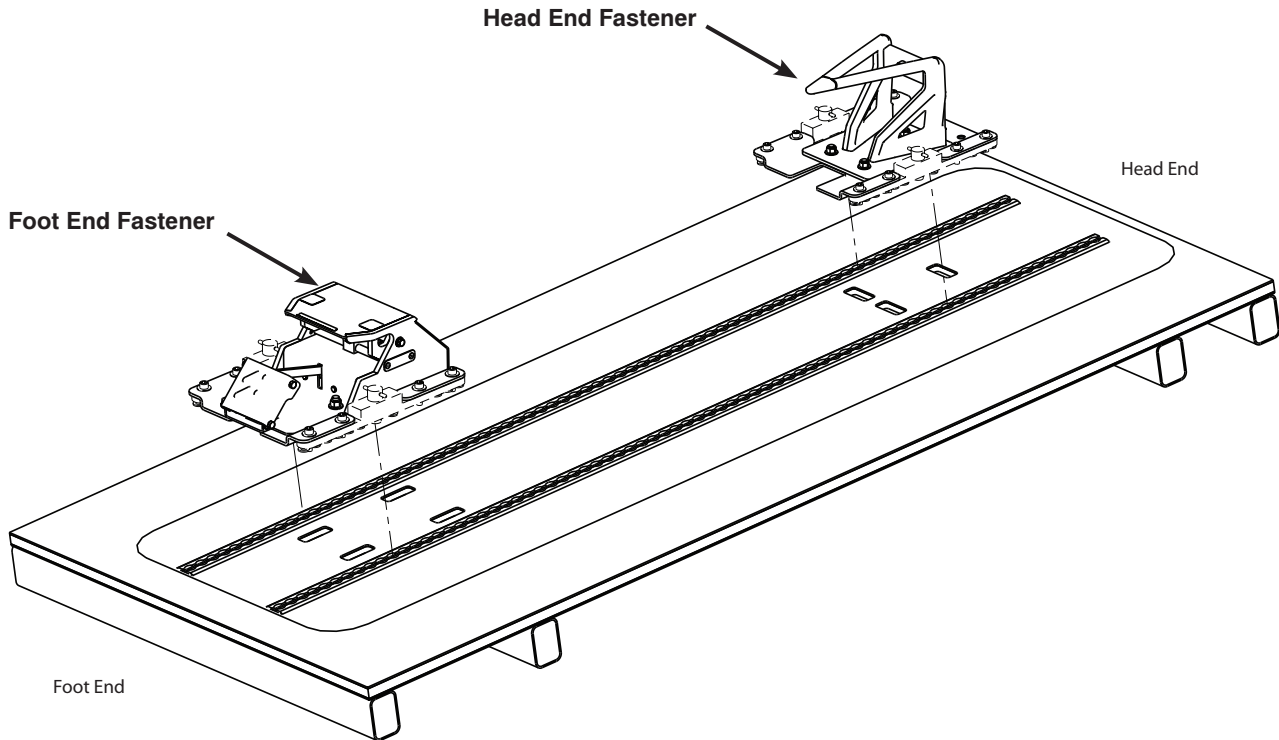

Figure 7: Head End and Foot End Fastener - Floor Track Installation
- Repeat steps 2 - 5 to install the head end fastener to the floor track (Figure 7).